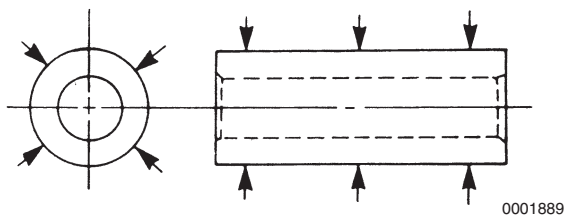

Figure 6-113
7. Measure the outside diameter of the wrist pin in three places and at 90° (**Figure 6-113**). See *Piston on page 6-15 for specifications*. Record the measurements.